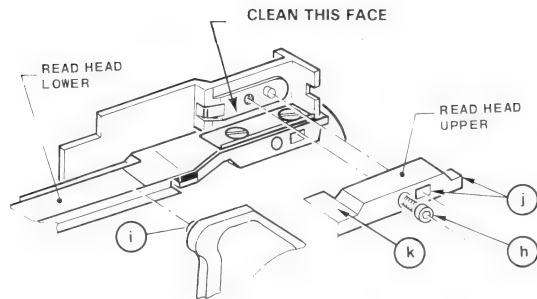

Figure 4.2.8b
- Unscrew the screw h (figure 4.2.8b) and remove the head to be changed.
- Place the head on the loading finger i (figure 4.2.8b)
- Engage part j of the head (figure 4.2.8b)